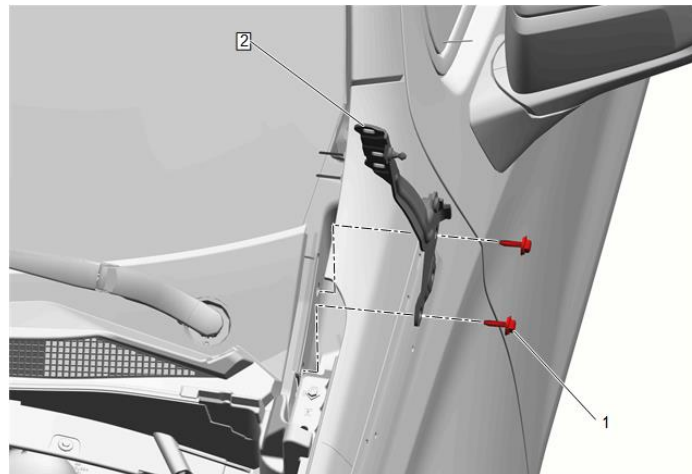

Figure 3
- Remove the two (2) lower hood hinge bolts. (**Figure 3, #1**)